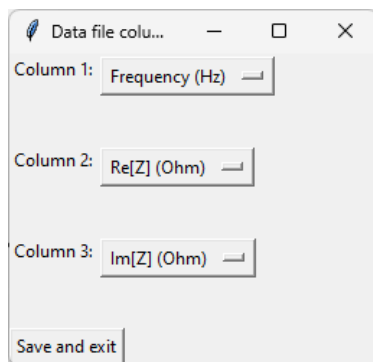

Figure 41: Restoring the default data file layout specification.
- To go back to the standard loading settings, go to **File>Specify data file layout...** and select the settings indicated in Figure 41. If you do not do this, DEC*i*M will continue to expect $(f, |Z|, \phi)$ data even after closing the program.